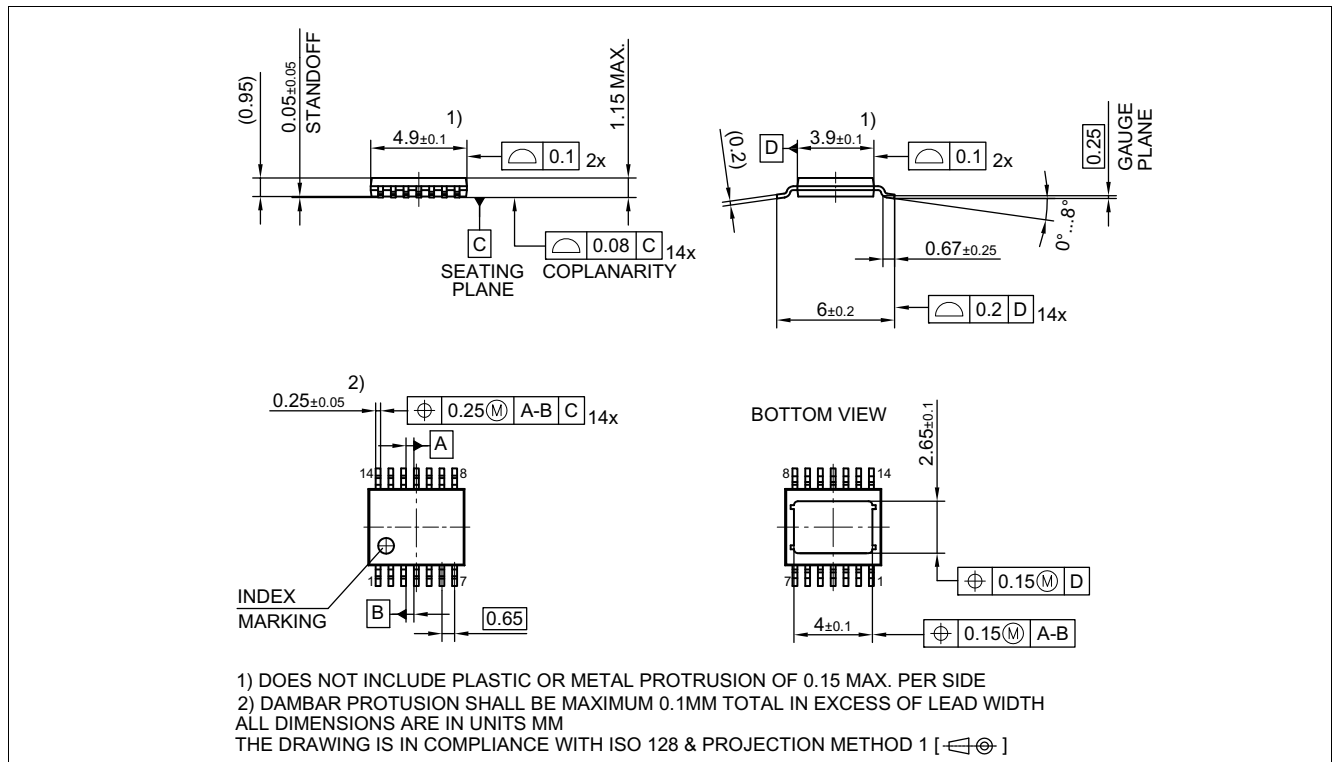
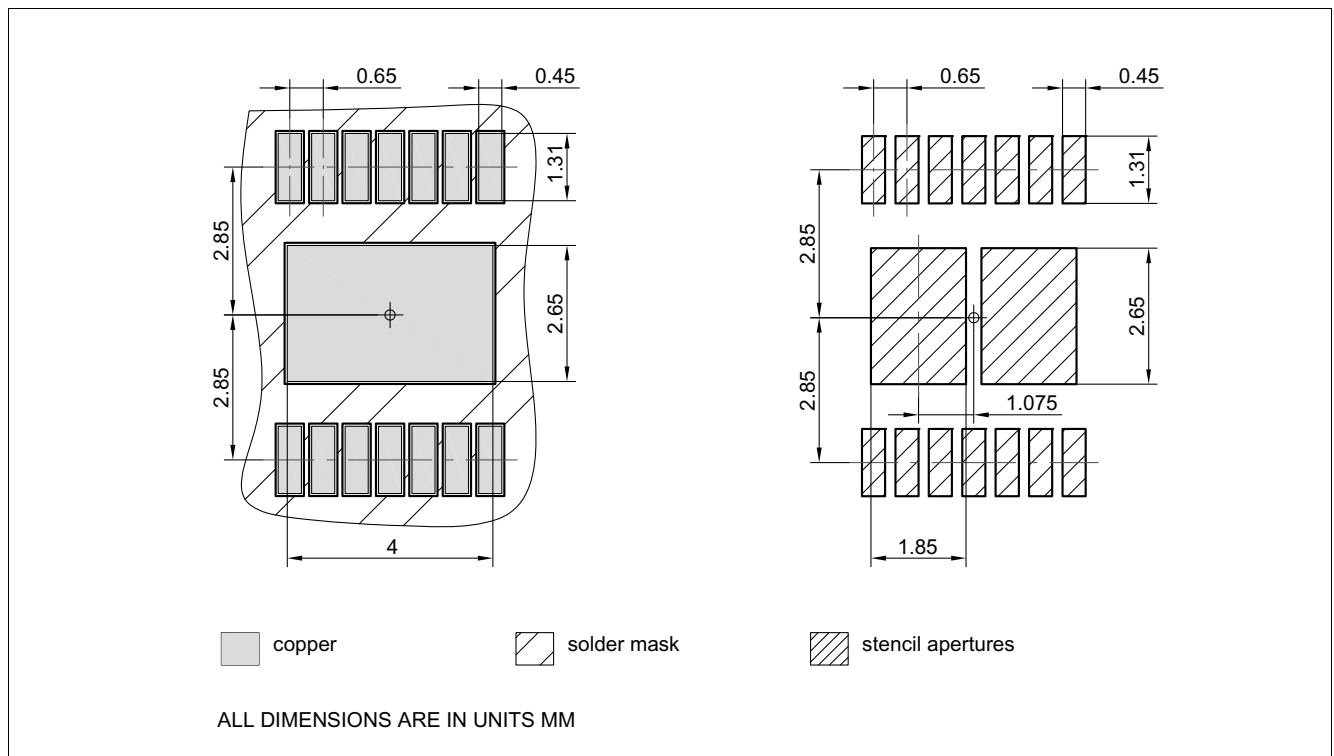

Figure 44 PG-TSDSO-14 (Thin (Slim) Dual Small Outline 14 pins) Package Outline
Figure 45 PG-TSDSO-14 (Thin (Slim) Dual Small Outline 14 pins) Package pads and stencil
1.03 , 2018-10-18	Chapter 9.3.1 updated (typo) Page 1: updated (Package PG-TSDSO-14-22 $\rightarrow$ Package PG-TSDSO-14) Figure 29 updated Figure 44 updated (PG-TSDSO-14-22 (Thin (Slim) Dual Small Outline 14 pins) Package Outline $\rightarrow$ PG-TSDSO-14 (Thin (Slim) Dual Small Outline 14 pins) Package Outline) Figure 45 updated (PG-TSDSO-14-22 (Thin (Slim) Dual Small Outline 14 pins) Package pads and stencil $\rightarrow$ PG-TSDSO-14 (Thin (Slim) Dual Small Outline 14 pins) Package pads and stencil) Table 1 updated ((Symbol: $I_{\text{VS(SLEEP)}}$ $\rightarrow$ $I_{\text{VS(SLEEP)_85}}$), (Parameter: Minimum Overvoltage protection ($T_J = 25\text{ °C}$) $\rightarrow$ Minimum Overvoltage protection ($T_J \geq 25\text{ °C}$)) P_9.6.0.6 updated (Note or Test Condition: removed unnecessary line-break) Chapter 7.4.1 updated chapter title (PROFET $\rightarrow$ PROFET™) Table 12 updated table title (PROFET $\rightarrow$ PROFET™) Chapter 8.6.1 updated chapter title (PROFET $\rightarrow$ PROFET™) Table 16 updated table title (PROFET $\rightarrow$ PROFET™) Chapter 9.5.1 updated chapter title (PROFET $\rightarrow$ PROFET™) Table 21 updated table title (PROFET $\rightarrow$ PROFET™) P_4.1.0.21, P_4.1.0.22, P_4.1.0.23, P_4.1.0.24 updated (footnote ESD standards) Table 1 updated ($R_{\text{DS(ON)}} \rightarrow R_{\text{DS(ON)_150}}$), ($V_{\text{DS(CLAMP)}}$ $\rightarrow$ $V_{\text{DS(CLAMP)_25}}$) Chapter 8.5.2 updated phrasing P_7.5.3.14 Table subheading "Switching Energy" added P_7.5.3.15 Table subheading "Switching Energy" added Chapter 6.4 added conditions Chapter 7.5 added conditions P_7.5.3.14 updated (Test condition: add "See Figure") P_7.5.3.15 updated (Test condition: add "See Figure") Chapter 8.7 added conditions Chapter 9.6 added conditions P_9.7.3.27 updated (Test condition: add "See Figure") P_9.7.3.29 updated (Test condition: add "See Figure") Chapter 7.3.1 typo corrected (link to Figure 19 added)